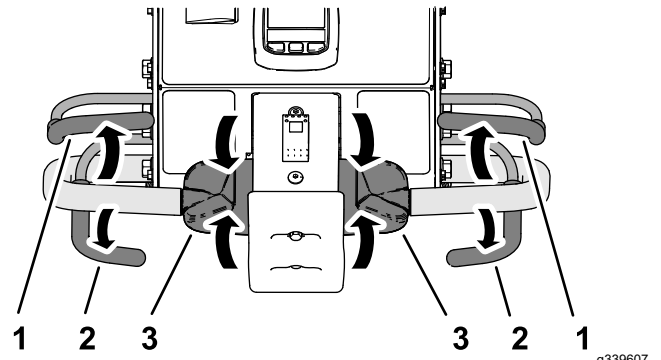

Figure 86
1. If you are aerating, release the aerate bail (Figure 86) to raise the coring head; refer to Raising the Coring Head (page 47).